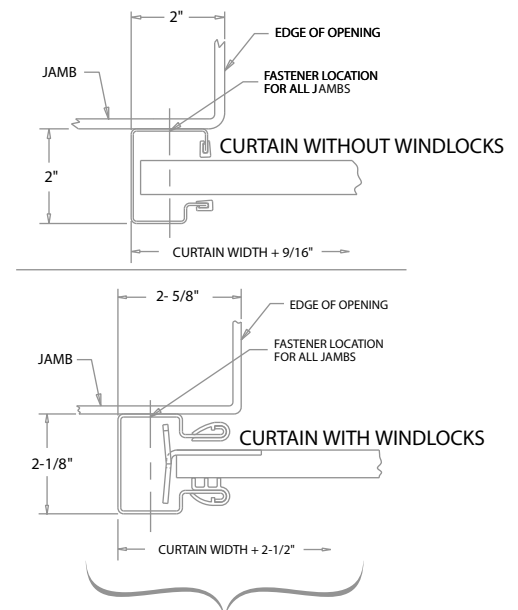

FIGURE 7
- The guides should be mounted centered about the opening and spaced curtain width + 9/16" apart for non-windlock doors and curtain width + 2-1/2" for windlock doors. This spacing is measured from back of guide to back of guide. *See figure 7.* Both guides must be plumb.